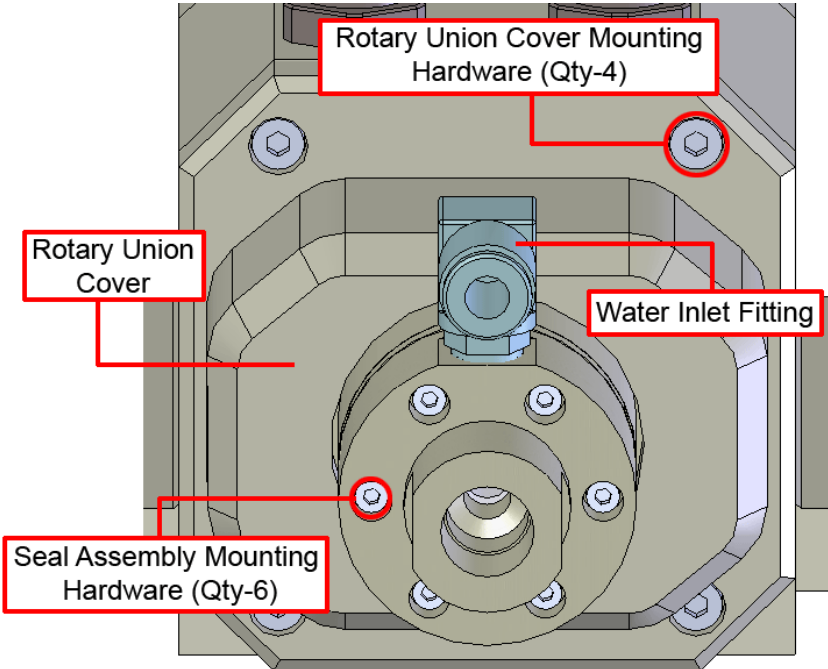

Figure 4-5: Rotary Union Hardware Removal
- 2. To access the rotary union seal assembly, first remove the water inlet fitting (see Figure 4-5).
- 3. Remove the six seal assembly screws from the rear end of the rotary union (see Figure 4-5).